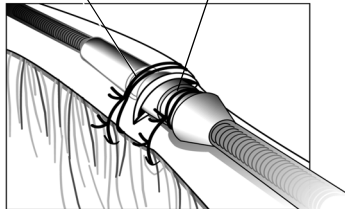

Figure 15. Using the sleeve with the venous cutdown technique.
1. Slide the suture sleeve into the vein past the distal pre-formed groove. Ligate the vein around the suture sleeve to obtain hemostasis. Next, using the same groove, secure the lead and vein to the adjacent fascia (Figure 15).